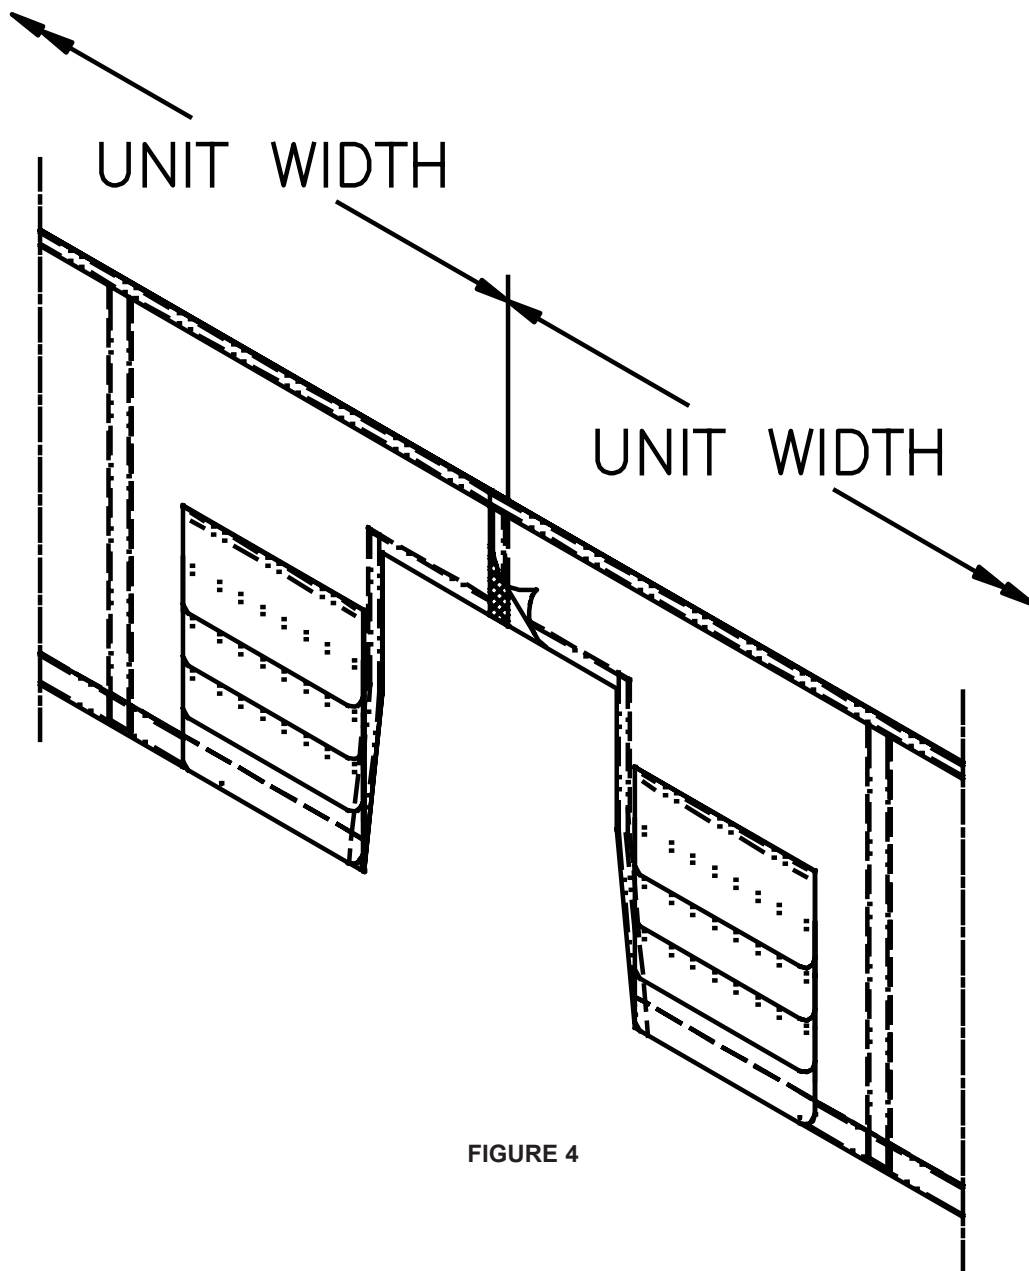

FIGURE 4
2. The common member ends of the curtain face will need to be attached to each other using the hook and loop sewn on at the factory. (See Figure 4)